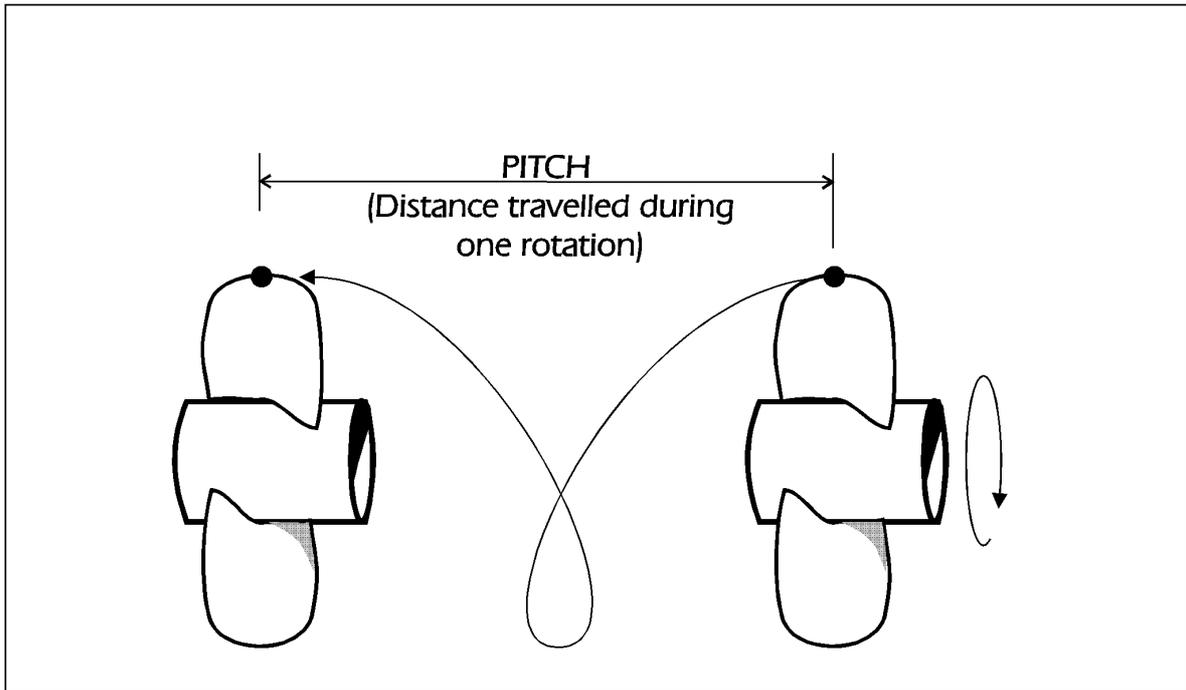

Figure 7:7—Propeller Pitch
- b. **Pitch**—The distance travelled forward by one revolution of the propeller. Propeller pitch is like the gear ratio in a car and should be individually selected to suit boat design and usage. Too little pitch will cause a motor to overspeed which will cause motor damage. Too much pitch will overload the motor and reduce performance. (See Figure 7:7).